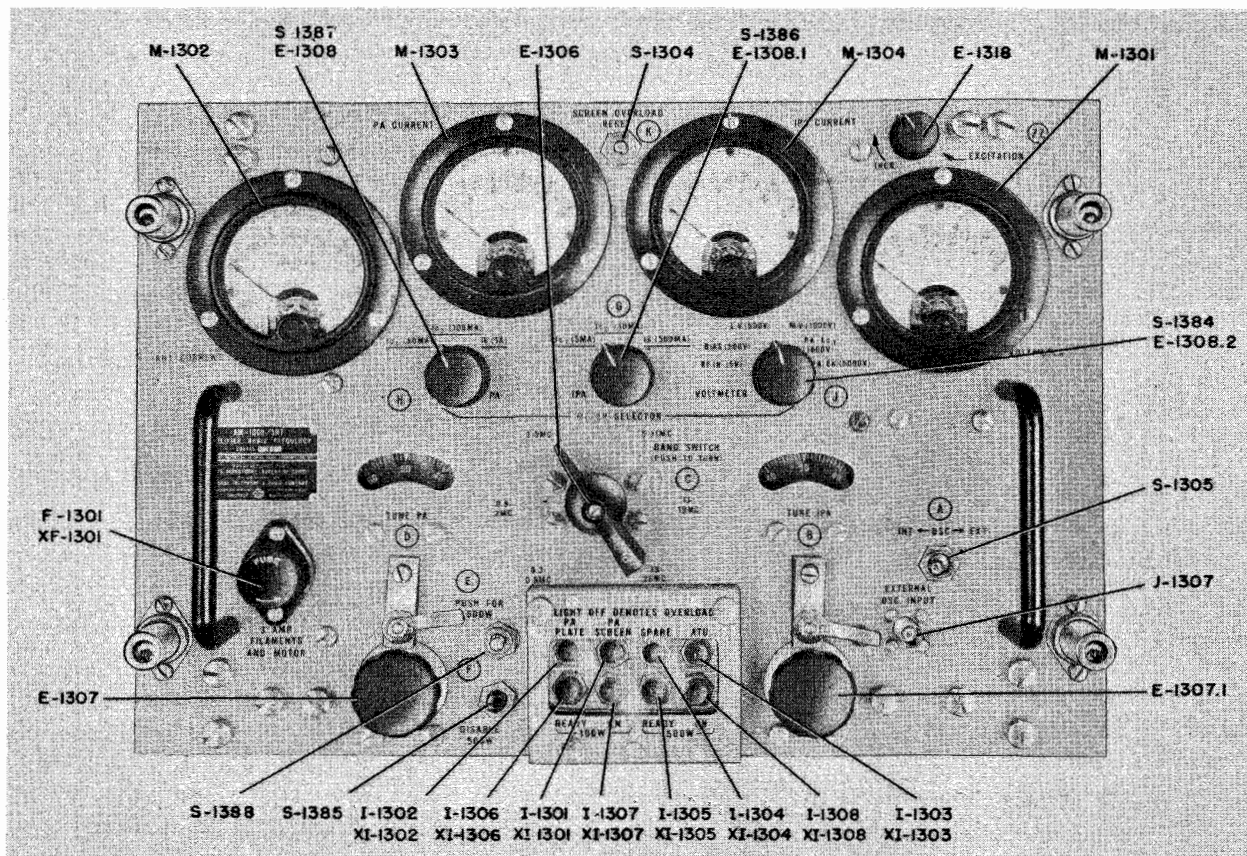
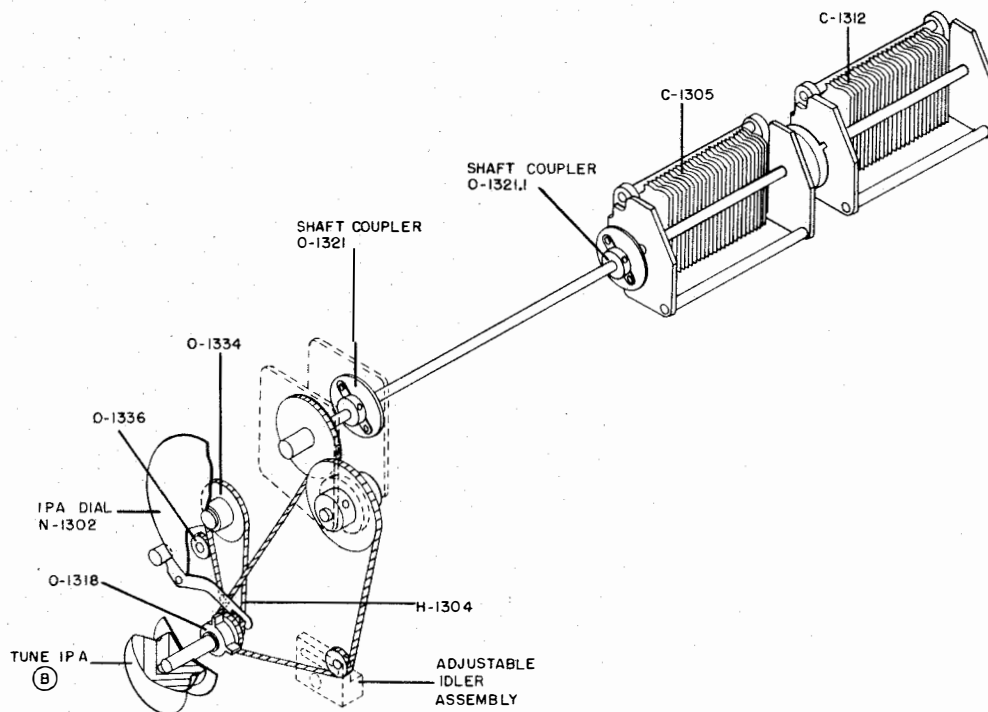

Figure 7-73. Radio Frequency Amplifier AM-1008/SRT (RFA), Front Panel
Figure 7-76. RFA, Intermediate Power Amplifier (IPA), Mechanical Drive System
Step 1. With the RFA drawer removed from the transmitter group cabinet, rotate TUNE PA knob ① on the front panel in a clockwise direction to indicate 100 on the dial, figure 7-73. At this point, the variable inductors will be at minimum inductance, and the core mounting assembly plate will be its uppermost position.
Step 1. Turn TUNE IPA knob ② in a clockwise direction, until it stops. IPA dial should point to 0 on the dial.
Step 2. Plates of variable capacitors C-1305 and C-1312 should be fully meshed. If not, loosen setscrews on shaft coupler O-1321, figure 7-76. Rotate shaft until plates are meshed, and tighten setscrews.
Step 1. Rotate TUNE PA dial ① in a clockwise direction until vacuum capacitors C-1319, C-1320 and C-1321 reach minimum capacity (minimum engagement of fixed and movable plates).
Step 3. Loosen setscrews on IPA shaft couplers, O-1321 and O-1321.1, and remove shaft between couplers (figure 7-76).